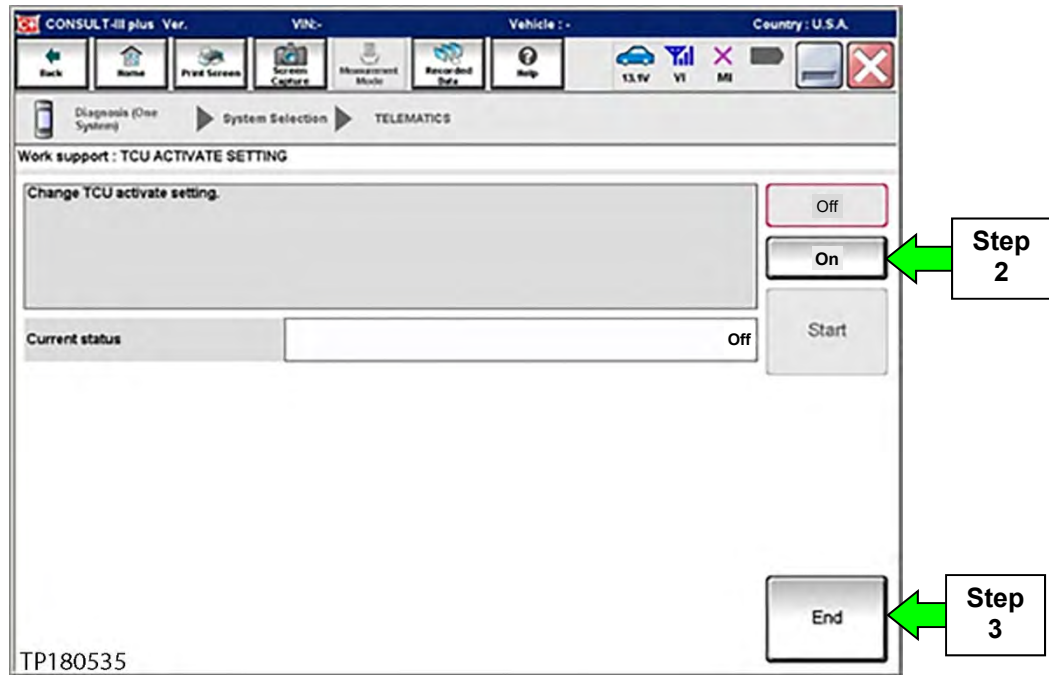

Figure 32
1. Got back to the Home screen, and then follow steps 9-13 starting on page 4 to get to Figure 32 below.